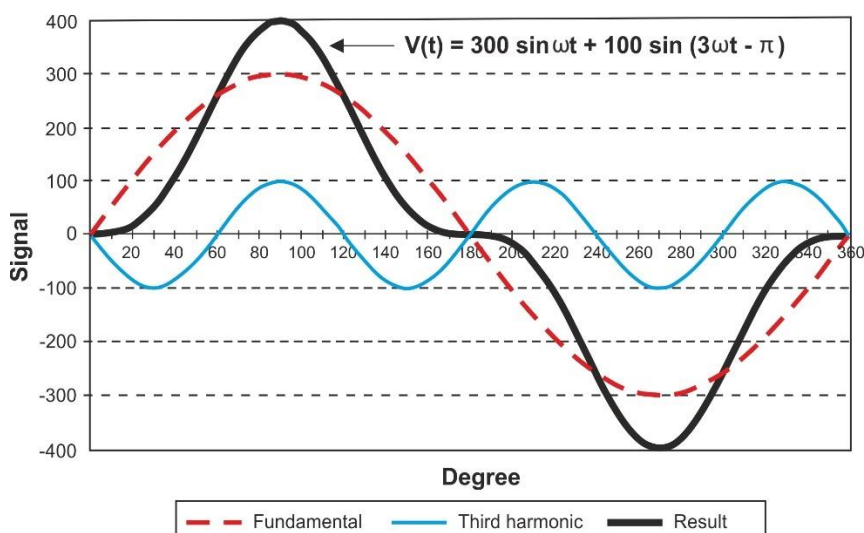

Fig. 88: Harmonic analysis – Effect of the sum of 2 multiple frequencies
It can be seen how in (1) the index of the sum goes from **1 to  $\infty$** . What actually happens is that each signal does not have an unlimited number of harmonics: **there is always an order number beyond which the value of the harmonics is negligible**. The following Fig. 88 is an example of the superimposition of a 3rd order harmonic on a sinusoidal fundamental of a signal. The fact that the phase of the harmonic is in phase opposition produces a resulting signal that is significantly distorted and of greater amplitude than the fundamental, which could cause significant problems in the management of the protections.